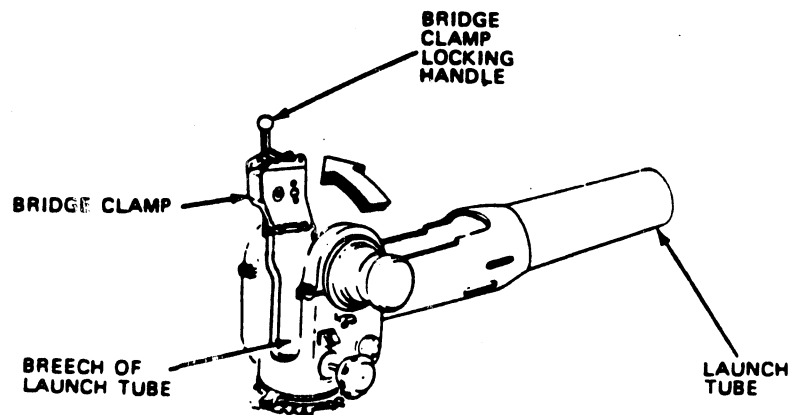

Fig 3-2. Traversing unit--continued
Step 3. Check the breech and inside of the launch tube for dirt, command-link wires, and foreign matter (fig 3-2).
Step 4. Raise the bridge clamp locking handle and open the bridge clamp (fig 3-2).